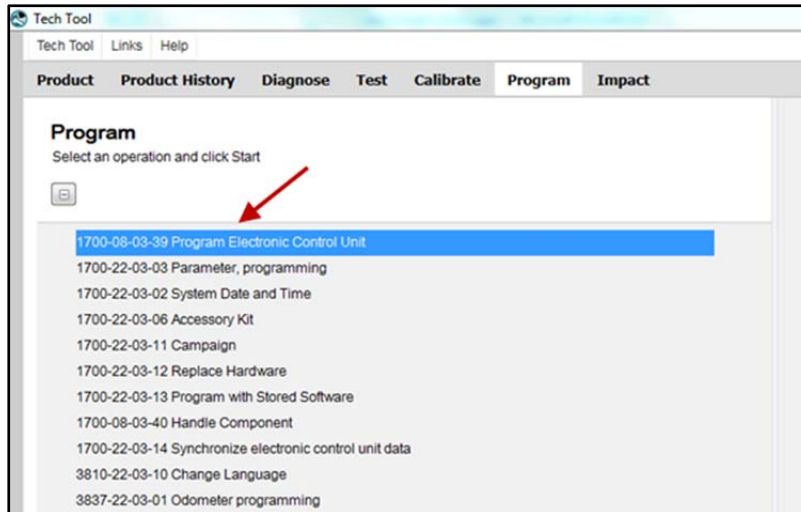

FIGURE 4
1. In Premium TechTool, select PROGRAM tab. In PROGRAM tab, select operation 1700-08-03-39 Program Electronic Control Unit then click START (FIGURE 4).